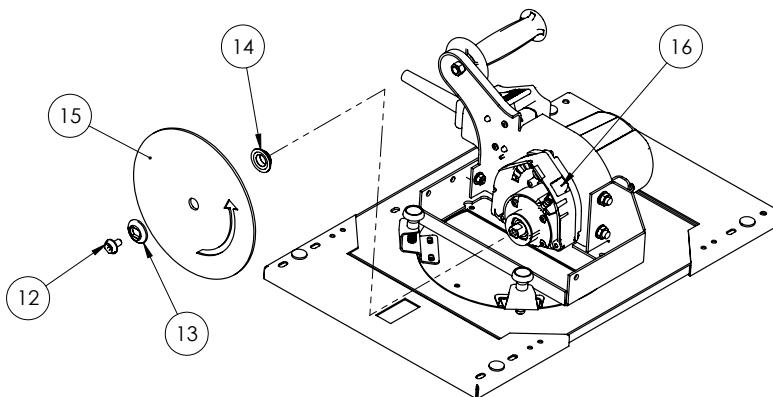
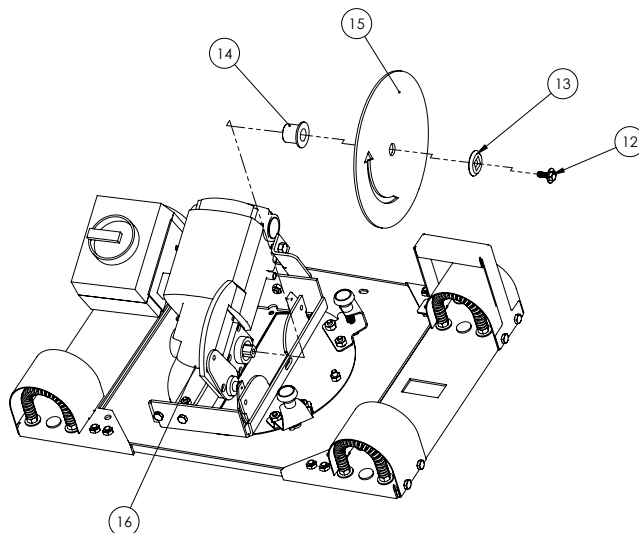

Figure 30: Installing a Saw Blade (C & H Series Shown)
Figure 31: Installing a Saw Blade (6400 & 6800 Series Shown)
3. To keep the spindle from turning while you loosen the arbor bolt (C & H Fig. 30, #12) or (6400 & 6800 Fig. 31, #12) push the spindle lock (#16) located on the under-side of the saw motor Fig. 31 (6400 & 6800) or on top of the motor housing Fig. 30 (C & H series). Then tighten the carriage lock.
4. Use the hex (C & H) or box end (6400 & 6800) wrench provided with the saw to loosen and remove the bolt (Fig. 30 or 31, #12) counterclockwise (C4, C5, H-Series) clockwise (6400/6800), while holding the spindle lock.
5. Remove the outer blade flange (Fig. 30 or 31, #13), blade (#15), and inner blade flange (#14).